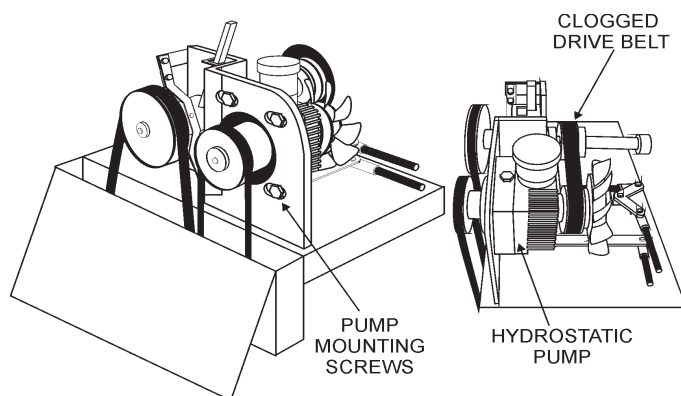

Figure 34. Hydrostatic Pump Drive Belt
1. To change or adjust the clogged drive belt (Figure 34) for the hydrostatic pump, loosen the four mounting bolts on the hydrostatic pump. Move the pump unit towards the rear of the roller and adjust the clogged belt for approximately 1/2 inch (1.27 cm) deflection when the belt is pressed midway between the two pulleys. When the correct amount of belt deflection has been achieved, retighten hydrostatic pump mounting screws.